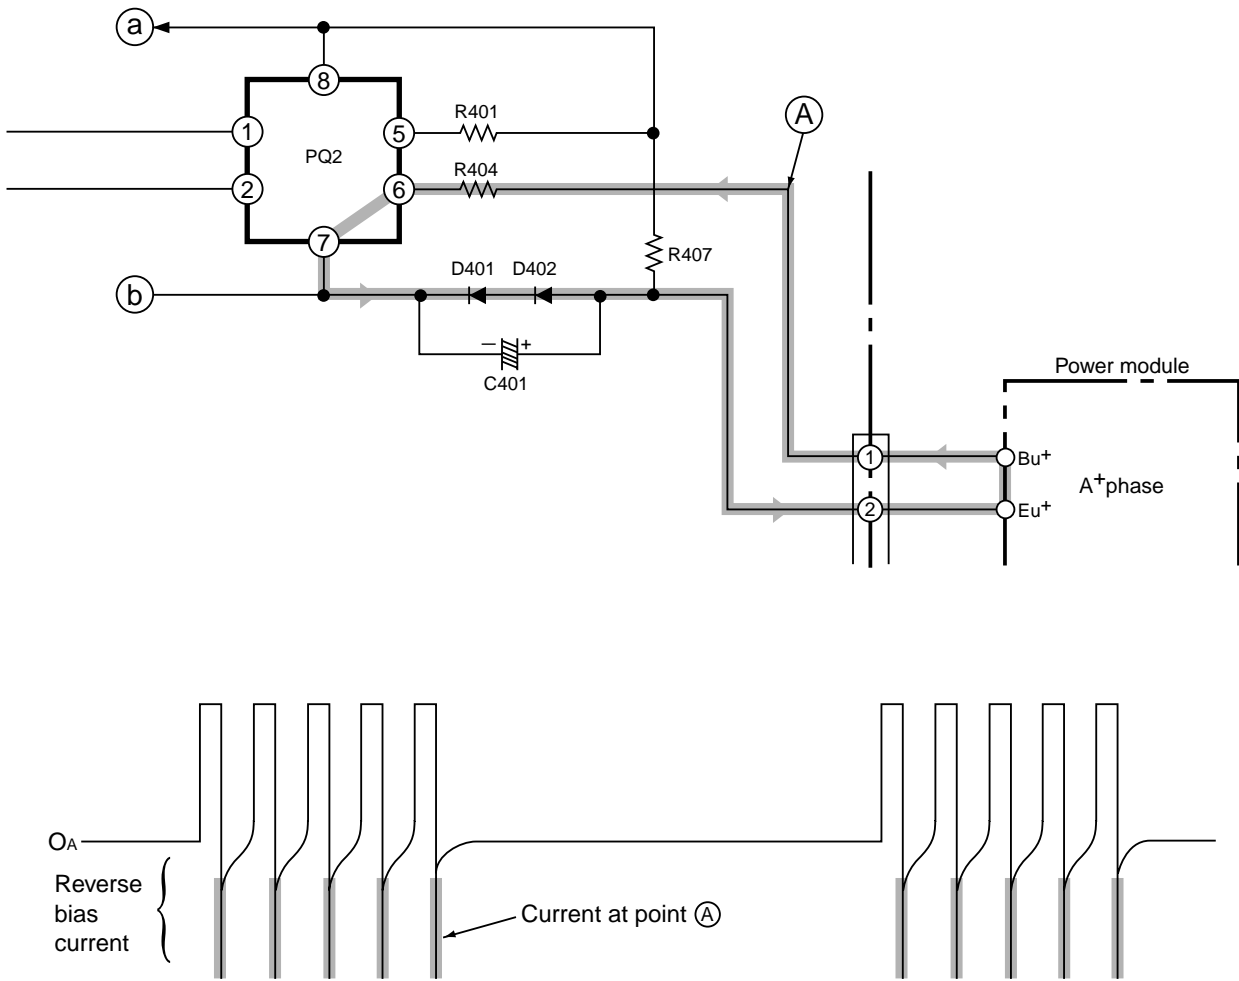

Fig. 7-3 Waveform of Transistor Base Current (Reverse Current at Point ①)
- As described in the rotor magnetic pole position detecting circuit, the upper arm drive circuit supplies current to the bases of the transistors on the power module's positive \oplus side which turn on or off according to the position detection signals. The signals according to the position detection signals are output from pins ⑳, ㉑ and ㉒ of the micro computer and are input to pins ② of photocouplers PQ501 - PQ503 via driver IC1.
- When pin ②③ of HIC-1 then goes "Hi" → "Lo", a photocoupler between PQ2 pins ① and ② turns off and the reverse bias current flows to C501 → power module's Eu⁺ terminals → Bu⁺ terminals → R504 → PQ501 Switching incomplete to cut off the upper arm transistors. (Fig.7-3)